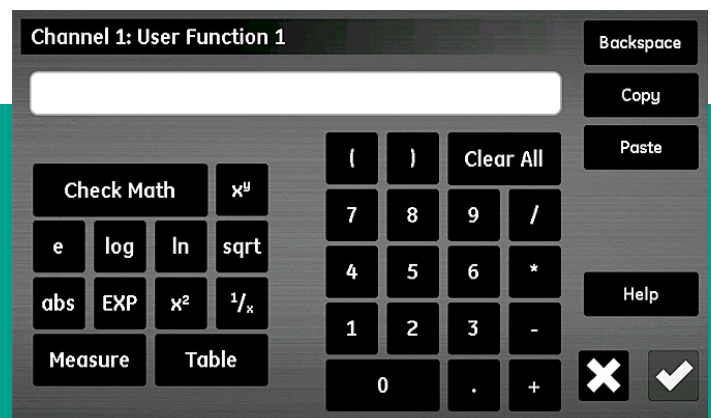

Figure 61: User function equation screen
3. Tap the **user function** button to select the function name (**func 1**, **func 2**, **func 3** or **func 4**). Then, tap the large text box just below the channel button to open the *channel x:user function y* screen, as shown in *figure 61* below, to enter the function equation. When the equation is complete, tap the **check** button to return to the *user function setup* screen.
The buttons in *figure 61* above permit the inclusion of standard mathematical functions, lookup data from predefined user tables (see “*entering user-defined tables*” on page 71). The **check math** button is used to find any errors in the equation definition. Also, you may tap the **clear all** button at any time to start over. The **copy** and **paste** buttons at the top right corner of the screen may be used to duplicate information from one user function to another to avoid entering the same information multiple times.